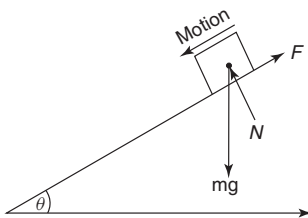

Figure 15.14
3. An experiment is required to obtain the static value of μ ; this is achieved by increasing the value of θ until the mass just moves down the plane, as shown in Figure 15.14. If the experimentally obtained value for θ were 22.5° , what is the value of μ ? [$\mu = 0.414$]